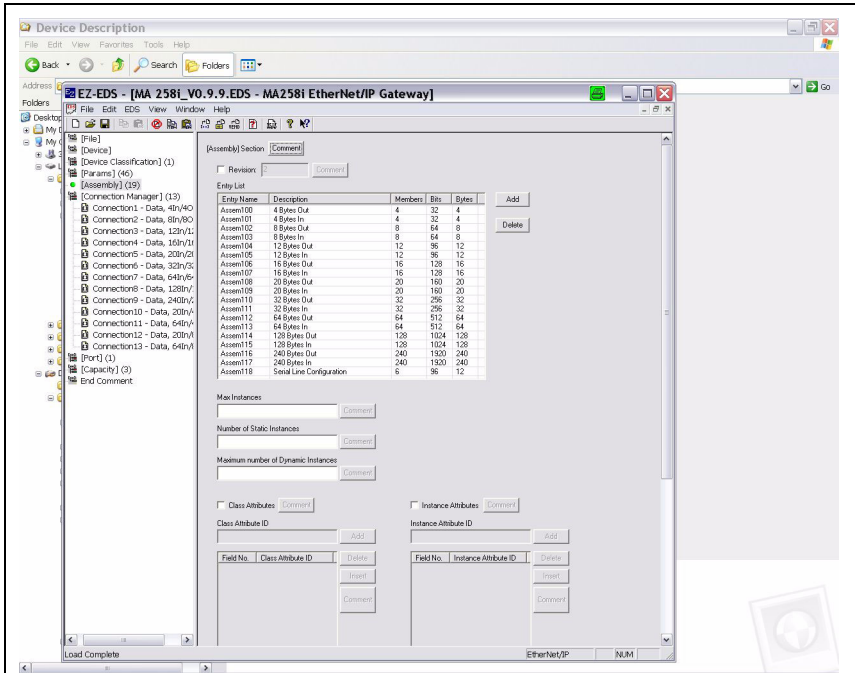

Figure 3.5: Assembly list
*) The possible data lengths are shown in figure 3.5. You can select the suitable byte number for your application here. Recommendations can be found in chapter "Specifications for Leuze end devices" on page 97.